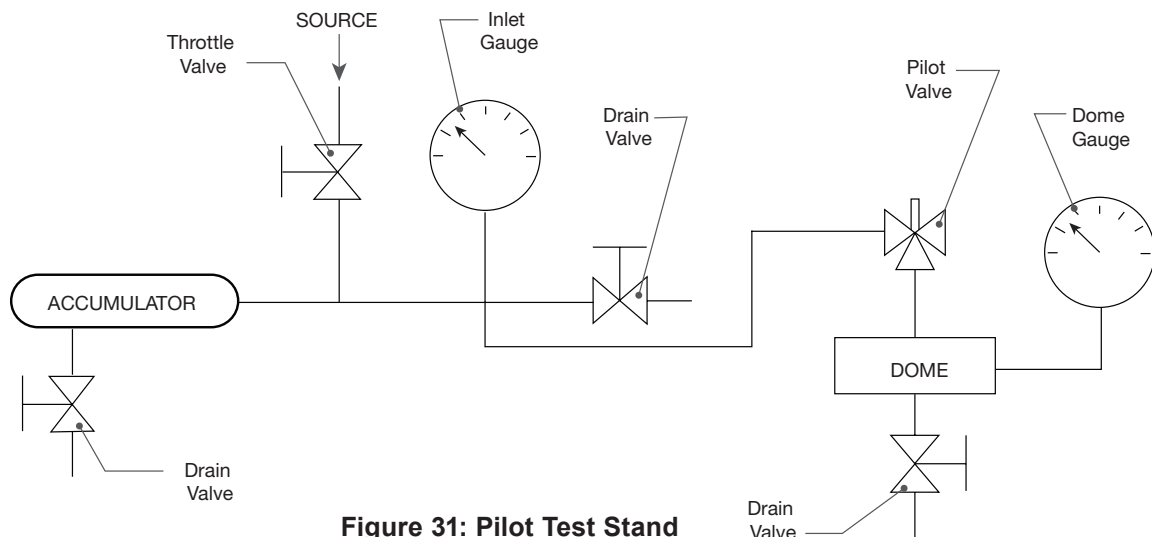

Figure 31: Pilot Test Stand
The pilot test stand should consist of the equipment shown in Figure 31. All equipment must be rated to at least the set pressure being tested. Test stand requires:
1. Mount pilot to pilot test stand shown in Figure 31.